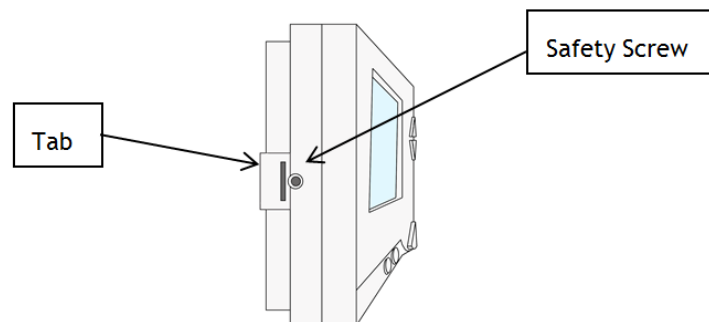

Figure 10: Thermostat Side View
4. Remove the safety screw from the left side of the thermostat using the hex wrench. See Figure 10.
39. Once the thermostat has been snapped onto the back plate, use a hex wrench to insert the safety screw in the location shown in Figure 10: Thermostat Side View on page 17.